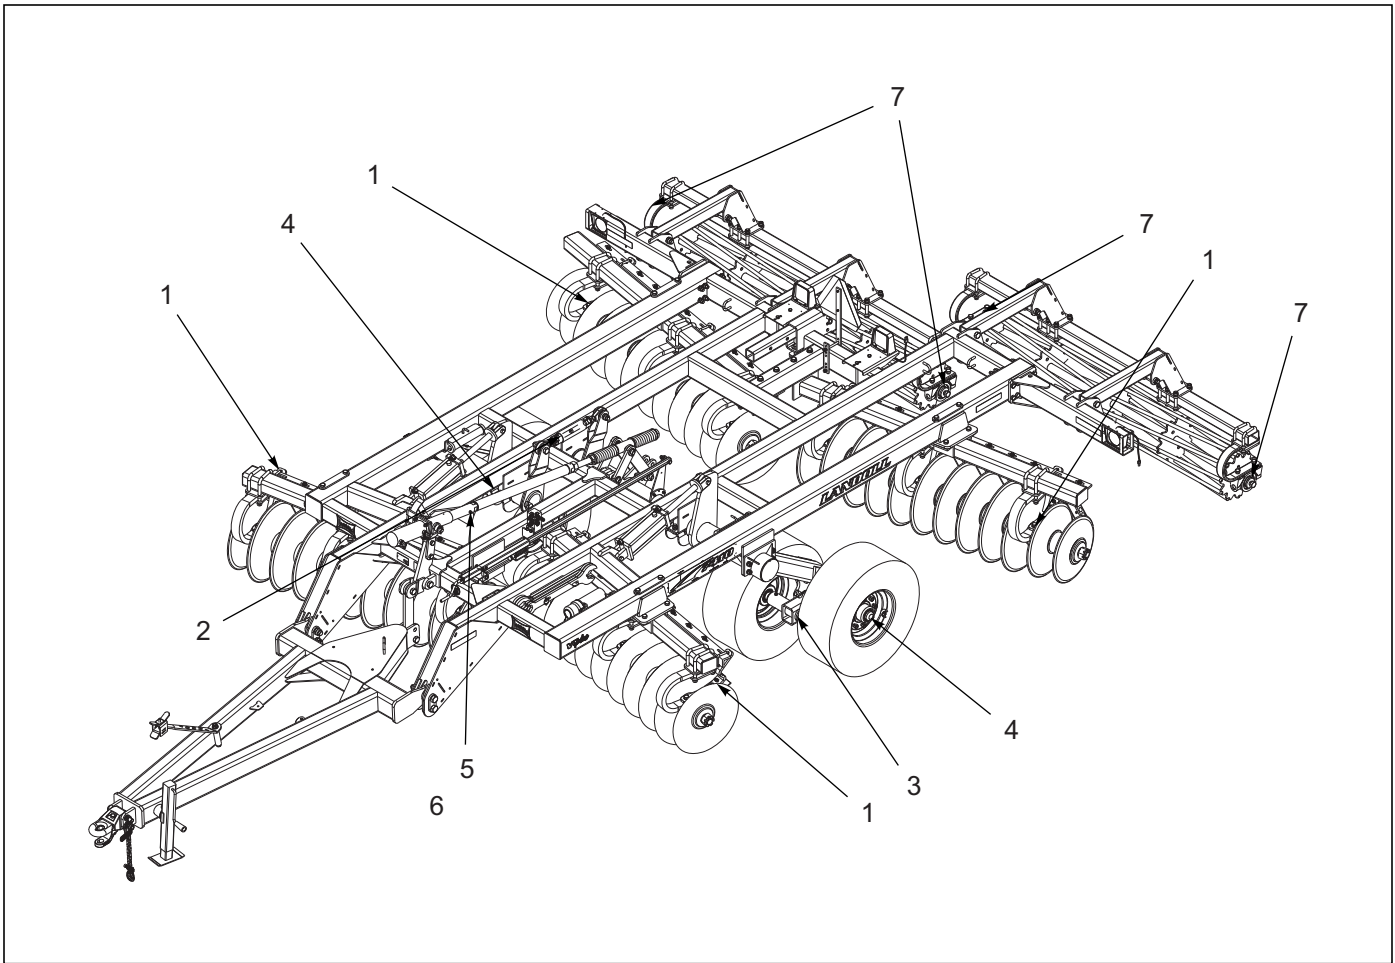

Figure 4-17: Lubrication Schedule
1. **Table 4-1** specifies the number and the period of lubrication points on the 7410 VT Plus. Proper maintenance of your machine will, under normal operating conditions, help to keep it operating at or near its peak performance for an extended period of time. Proper maintenance is also a condition of keeping your warranty in good status (**See Figure 4-17.**)